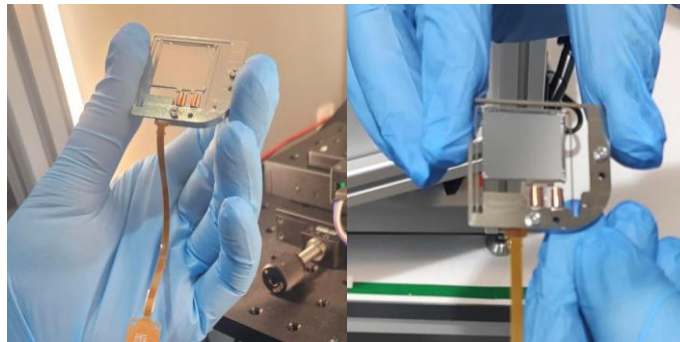

Figure 2: Manual handling of the LSR. Avoid touching the diffuser and only hold the device by the edges.
- Use gloves when handling the LSR and only grab it by the edges, without touching the spring or diffuser. See Figure 2.